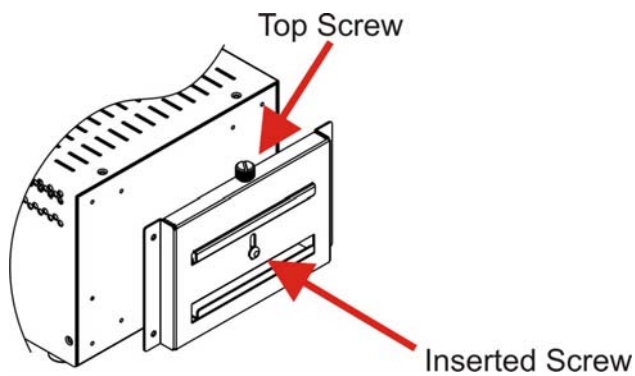

Figure 4-10: Screw Locations
Step 4: Make sure the inserted screw in the center of the bracket is at the lowest position of the elongated hole (Figure 4-10).